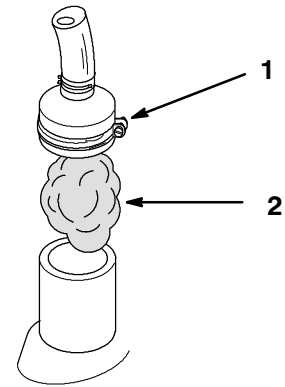

Figure 24
4. Open breather clamp and remove screen and baffle (Fig. 24).
6. Install baffle and screen and secure breather with clamp (Fig. 24).